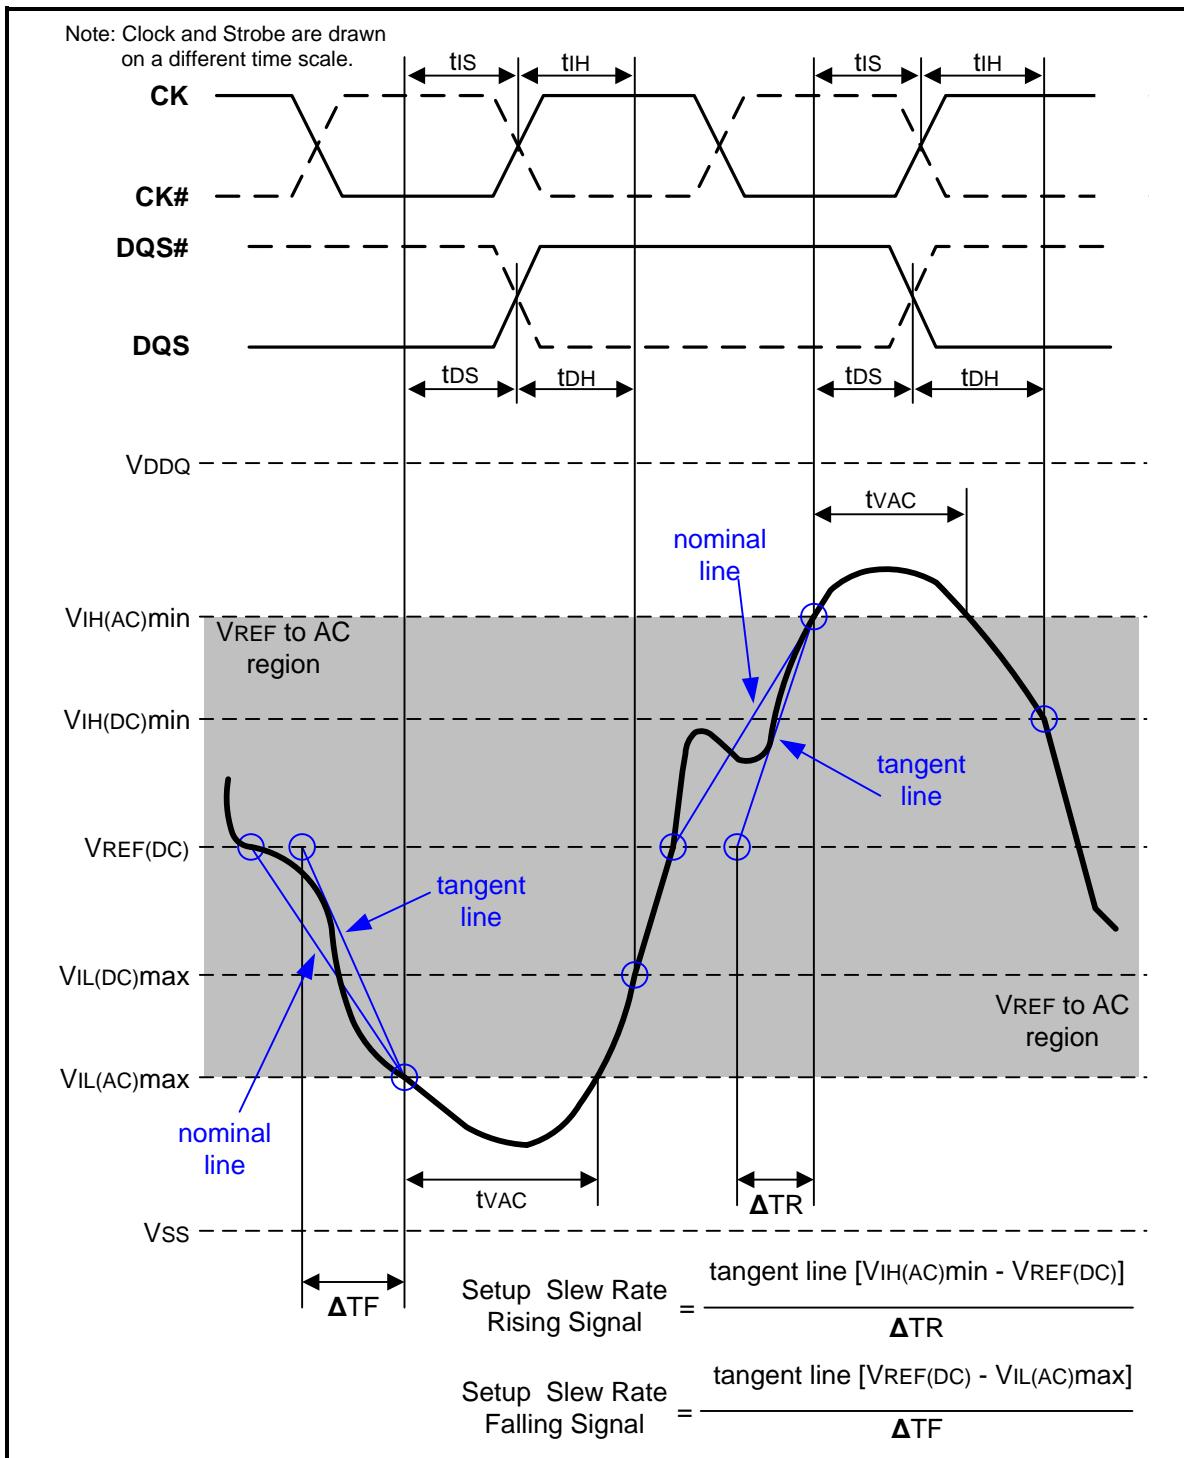

Figure 109 – Illustration of tangent line for setup time tDS (for DQ with respect to strobe) and tIS (for ADD/CMD with respect to clock)
Setup (tIS) nominal slew rate for a rising signal is defined as the slew rate between the last crossing of VREF(DC) and the first crossing of VIH(AC)min. Setup (tIS) nominal slew rate for a falling signal is defined as the slew rate between the last crossing of VREF(DC) and the first crossing of VIL(AC)max. If the actual signal is always earlier than the nominal slew rate line between shaded 'VREF(DC) to AC region', use nominal slew rate for derating value (see Figure 107). If the actual signal is later than the nominal slew rate line anywhere between shaded 'VREF(DC) to AC region', the slew rate of a tangent line to the actual signal from the AC level to DC level is used for derating value (see Figure 109).
Setup (tDS) nominal slew rate for a rising signal is defined as the slew rate between the last crossing of VREF(DC) and the first crossing of VIH(AC)min. Setup (tDS) nominal slew rate for a falling signal is defined as the slew rate between the last crossing of VREF(DC) and the first crossing of VIL(AC)max (see Figure 107). If the actual signal is always earlier than the nominal slew rate line between shaded 'VREF(DC) to AC region', use nominal slew rate for derating value. If the actual signal is later than the nominal slew rate line anywhere between shaded 'VREF(DC) to AC region', the slew rate of a tangent line to the actual signal from the AC level to DC level is used for derating value (see Figure 109).